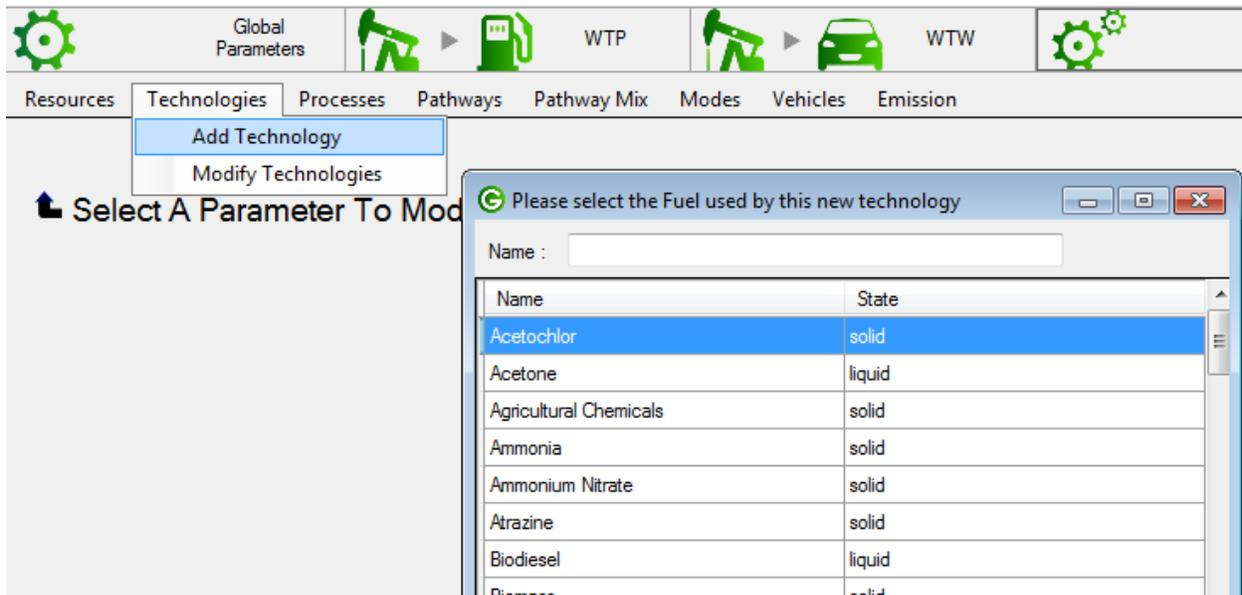

Figure 36: Selecting the Fuel for the New Technology
**Adding a new technology:** Technologies in GREET can be added by clicking the **Data Editor** main pane, opening the Technologies menu, and clicking **Add Technology**. See Figure 36. You will be asked to select the fuel or resource which is used by the technology. For example, if you need to create a new natural gas boiler, find natural gas in that list and double click it to create this new boiler technology.